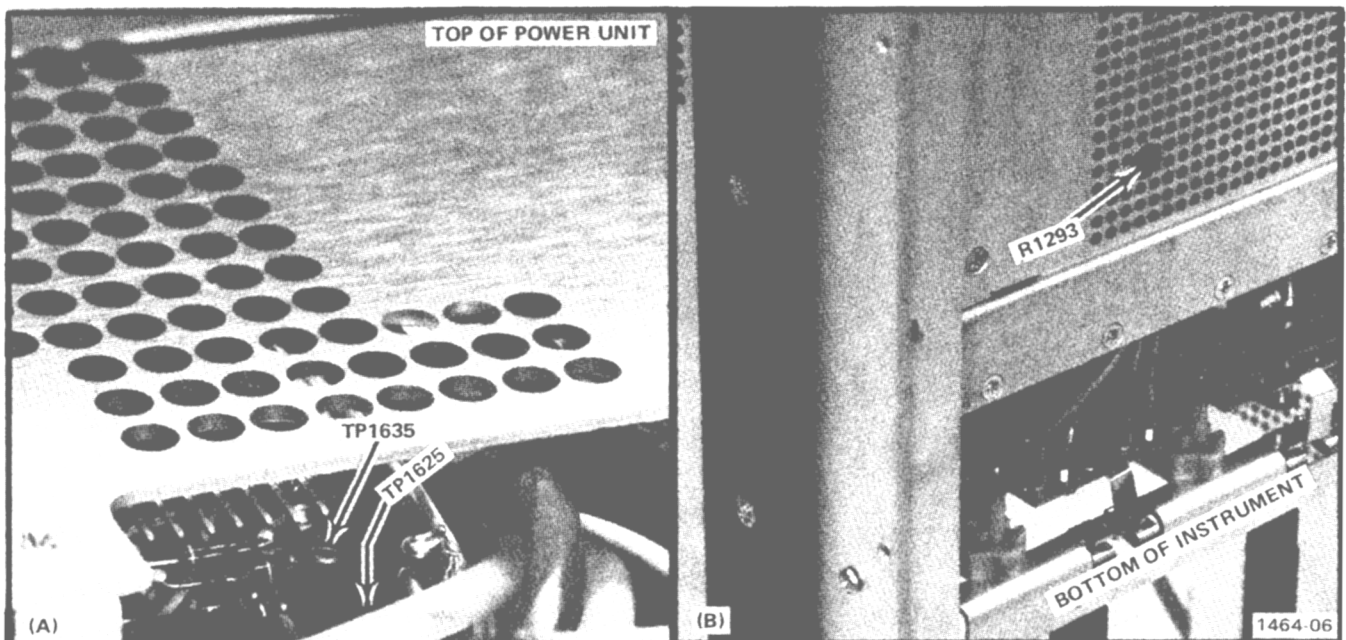

Fig. 2-1. (A) Location of Test Point 1625, (B) Location of R1293 Inverter control adjustments.
a. Connect the precision DC voltmeter between TP1625 (Cap-Rectifier board; see Fig. 2-1) and chassis ground.
c. ADJUST—Inverter control R1293 (Cap-Rectifier board; see Fig. 2-1) for a meter reading of +55 volts  $\pm$ 25 volts. Any change in this adjustment may affect operation of all circuits within the instrument.